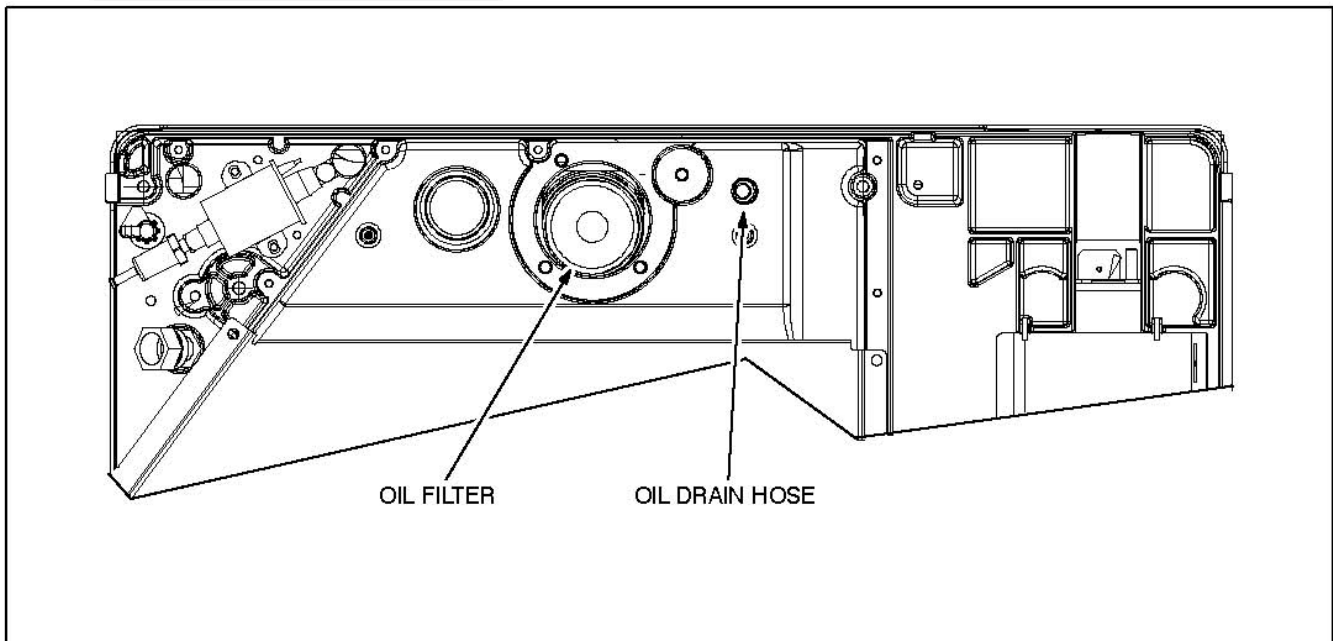

FIGURE 10. OIL FILTER AND DRAIN HOSE—VIEW FROM BELOW OF FRONT EDGE OF GENSET
1. Place a pan underneath the oil drain hose and filter (Figure 10). (The genset may have been installed with a remote oil filter.) Run and then stop the engine when it is warm.